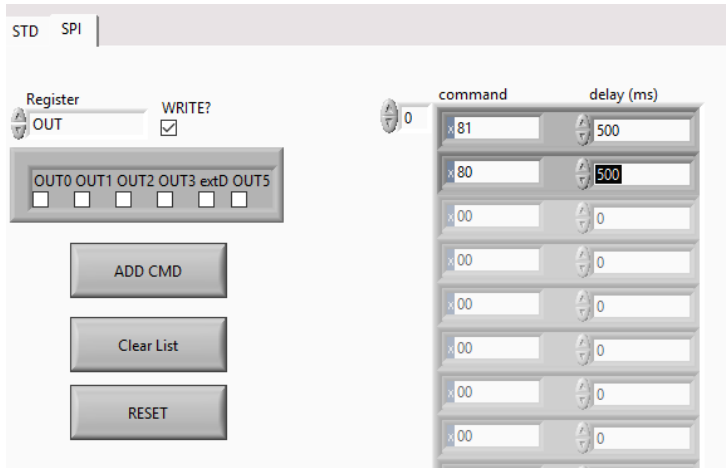

Figure 34 - change delay of commands
- Change the delay of command 81 to T\_ON, the delay of command 80 to T\_OFF (See Figure 34)